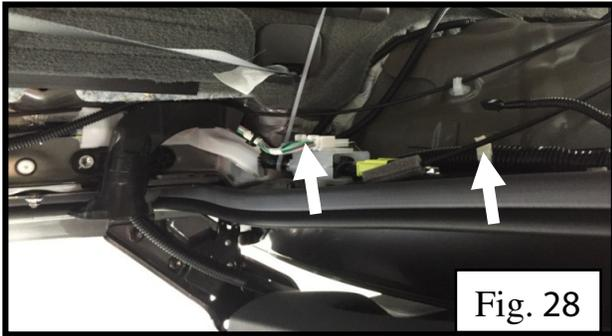

Fig. 28
14. Route the harness up through the inner structure of the driver's side quarter panel, using 2 cable ties (white arrows) to secure to the existing harness as shown (Fig.28).